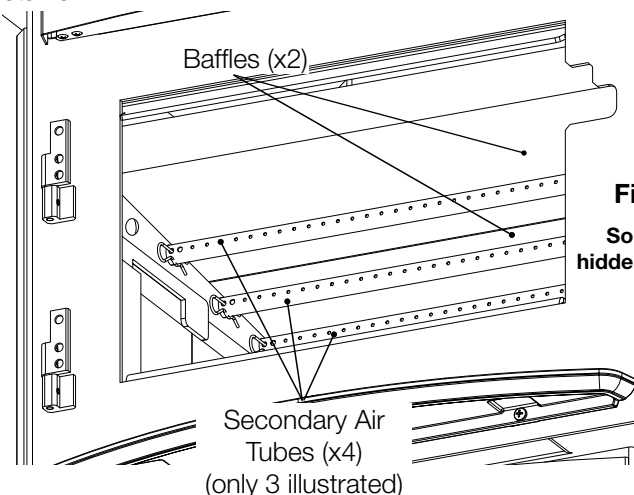

Fig. 4-4
- Carefully pivot two “E” fibre baffles up onto the secondary air tubes as illustrated (Fig. 4-4). **Installation of the baffles may be facilitated by removing the two front secondary air tubes (see installation manual for details).** Ensure that the baffles are pushed all the way to the rear of the firebox, leaving a minimum of a 1 inch gap along the front. This will allow the flue gases to escape the firebox. Ensure the overlap joint is tight and the notch is facing forwards the front.